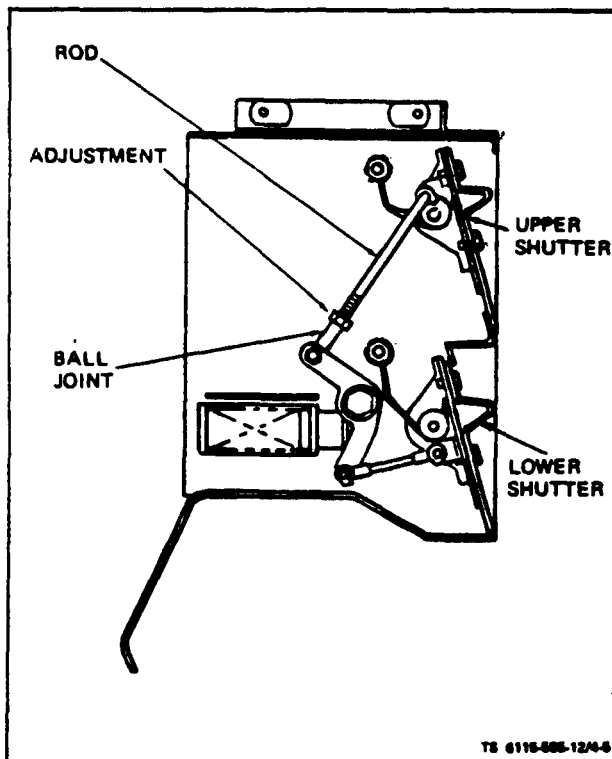

Figure 4-5. Adjusting Shuttters
(1) Shuttters (see figure 4-5). Disconnect rod from upper shutter. Adjust ball joint until upper shutter closes tightly on lower shutter when lower shutter is held closed. Re-attach rod to upper shutter.